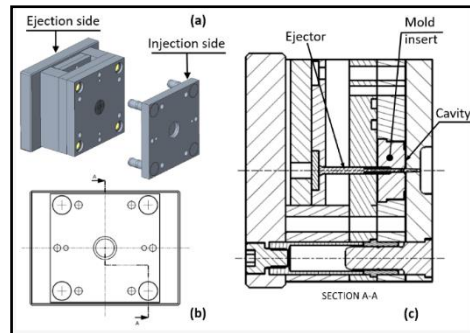

Figure 11.1. Injection moulding 1
- It has one starting winding in series with one capacitor and running winding since the capacitor remains in the circuit permanently. This motor is often referred to as permanent. Split capacitor runs motor and behaves practically like an unbalanced 2phase motor from figure 11.1